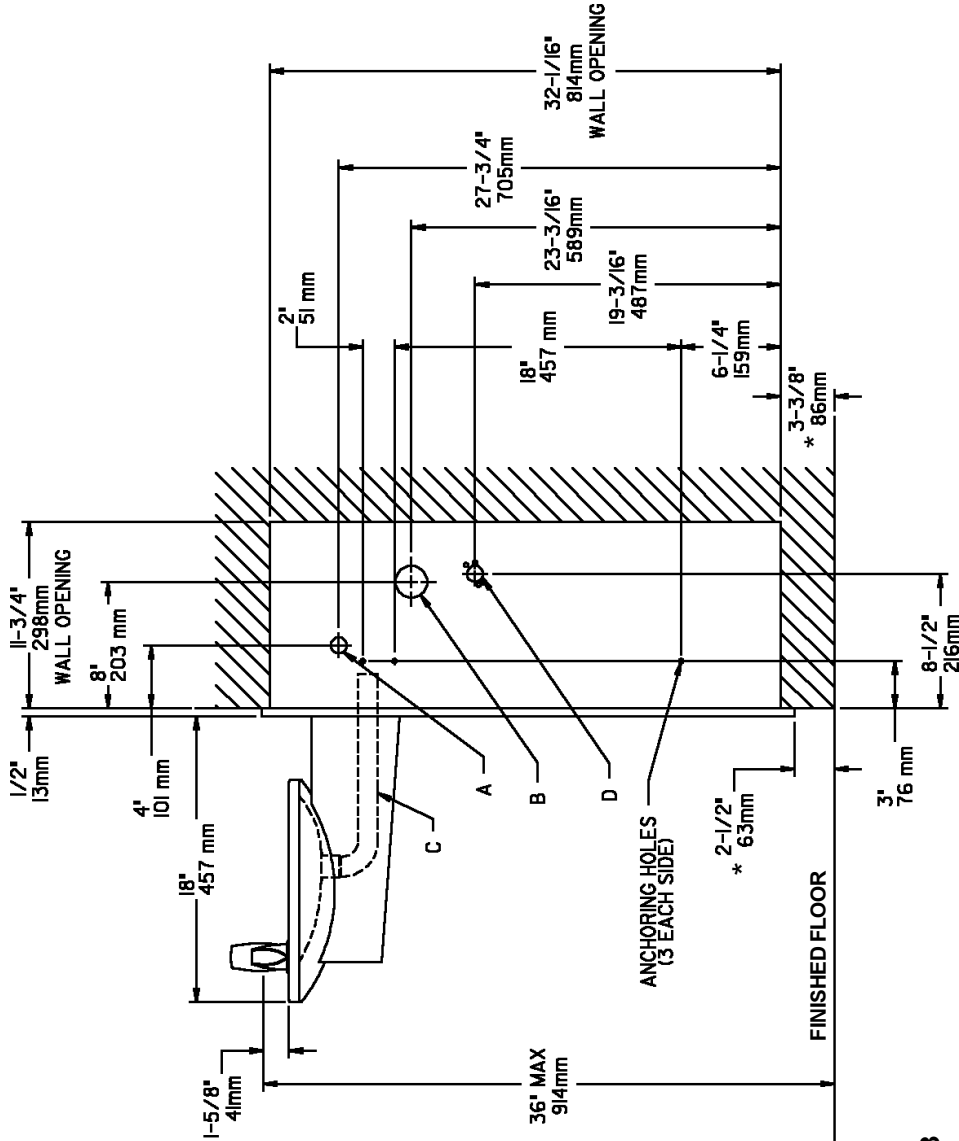
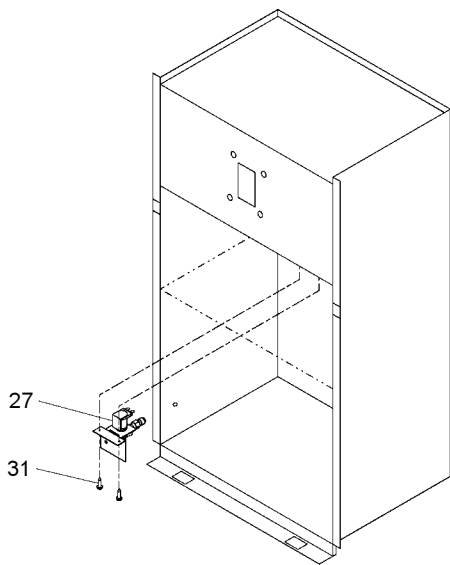

FIG. 3
FIG. 8
1. **Fasten mounting box** into wall cutout using (6) screws or bolts (provided by others) through holes or knockouts provided on each side of the mounting box. See mounting box instructions and figure 3.
2. **Mount back panel** using (2) #8 x .50" (13mm) pan head screws and (2) large clips provided.
3. **Secure fountain body** through back panel to wall box using (4) 5/16" -18 x 1.75" (44mm) hex head bolts and (4) 5/16" - 18 nuts provided. (Typical each fountain).
4. **Attach solenoid valve assembly** to the mounting box. See figure 8.